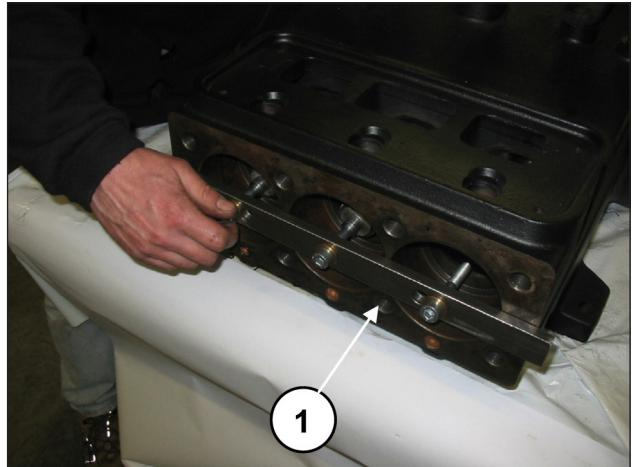
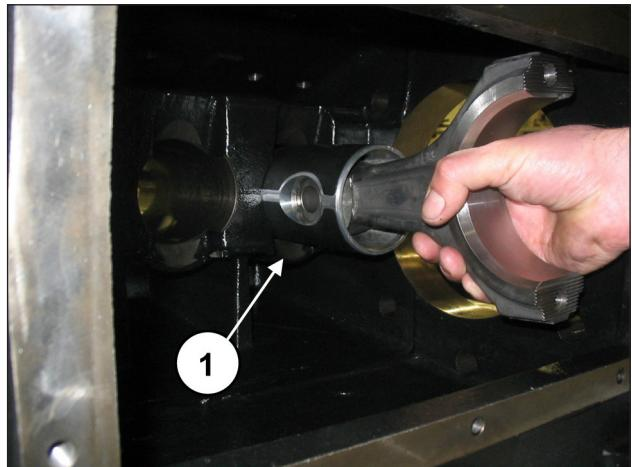

Fig. 31
Fig. 32
Unscrew the screws with tool code 27566200 to unlock the con-rods (pos. ①, Fig. 31) and then extract the con-rod-piston guide units from the back casing opening (pos. ①, Fig. 32).
After having checked casing cleaning, proceed with assembly of half support-piston guide unit inside casing rods (pos. ①, Fig. 32).
Block the three units with the use of special tool code 27566200 (pos. ①, Fig. 31).
Remove the tool for blocking the con-rods code 27566200 (pos. ①, Fig. 31).